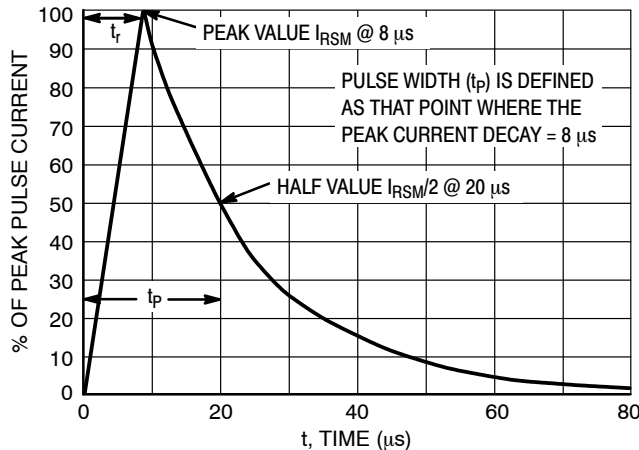

Figure 5. 8 x 20  $\mu\text{s}$  Pulse Waveform
1. Non-repetitive current pulse per Figure 5 (Pin 5 to Pin 2)
- Non-repetitive current pulse per Figure 5 (Any I/O Pin to Ground)